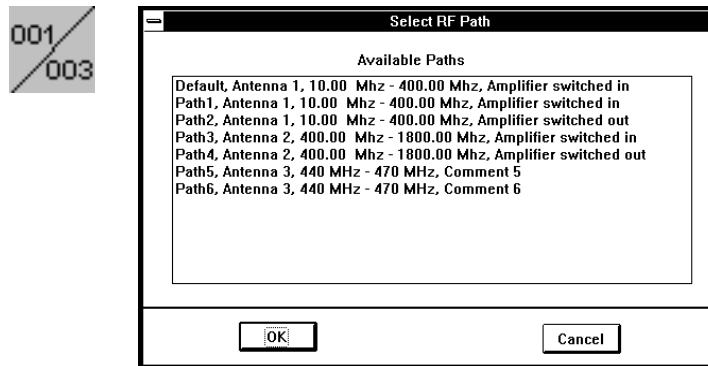

Figure 6-2: Select RF Path List Box
3.  Select an **RF Path** by clicking on **Select Path** to open the **Select RF Path** dialog box (Figure 6-2), select a path from the **Available Paths** list and then click **OK**.